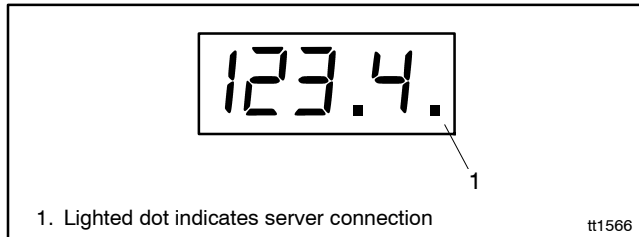

Figure 3-1 Controller Display with Server Connection Indicator
- RDC/DC Controller. Check the server connection LED on the generator set controller. See Figure 3-1.
Check for a dot in the lower right corner of the RDC or DC controller display to verify that the controller is connected to the Kohler® OnCue® Plus server. See Figure 3-1.